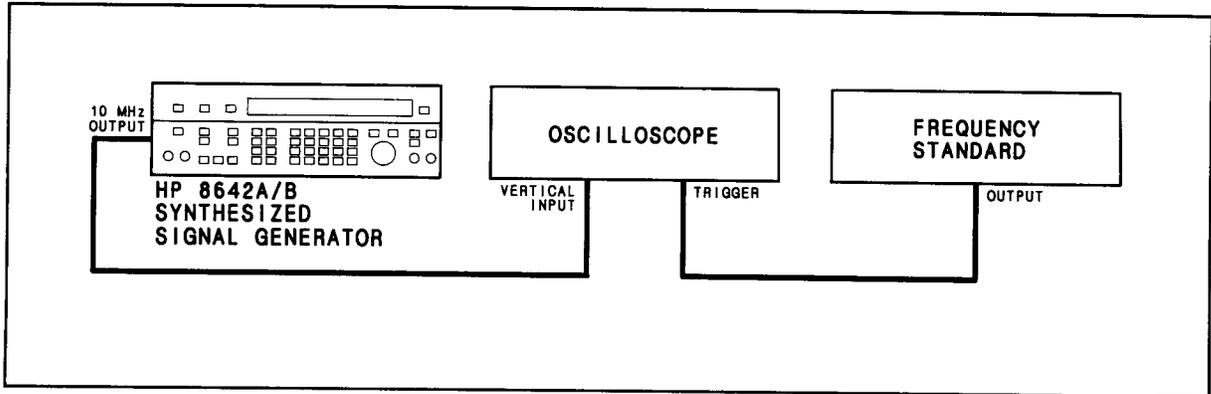

Figure 4-15. Internal Time Base Aging Rate Test Setup
2. Connect the instruments shown in Figure 4-15.